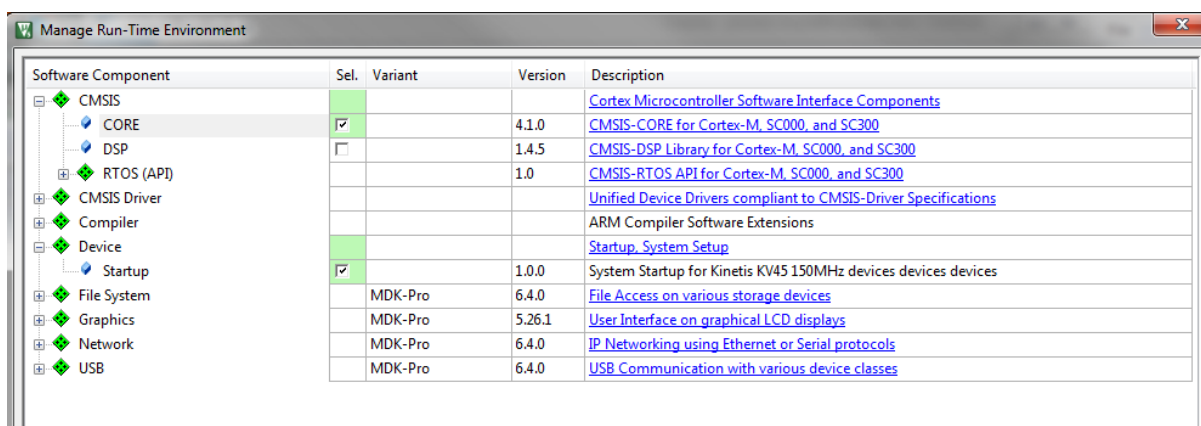

Figure 1-19. Manage Run-Time Environment dialog
8. In the next dialog, expand the Device node, and tick the box next to the Startup node. See Figure 1-19.